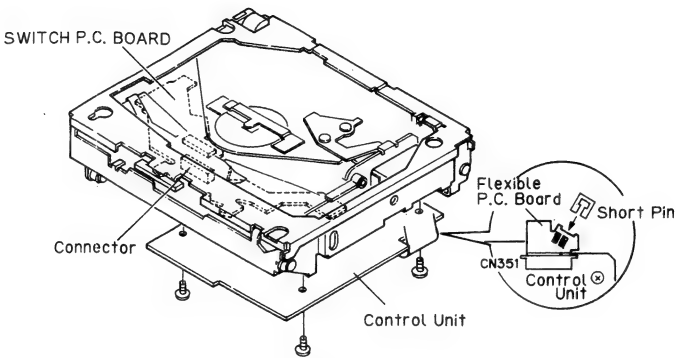

Fig. 8
- 4. Fix short pin when removing the CN351 connector. (For protection of the PU unit.) (Fig. 8)
- 5. Remove the three screws. (Fig. 8)
- 6. Since the control unit is connected to the switch substrate by means of connector, disconnect the connector and then remove the control unit right downward. (Fig. 8)